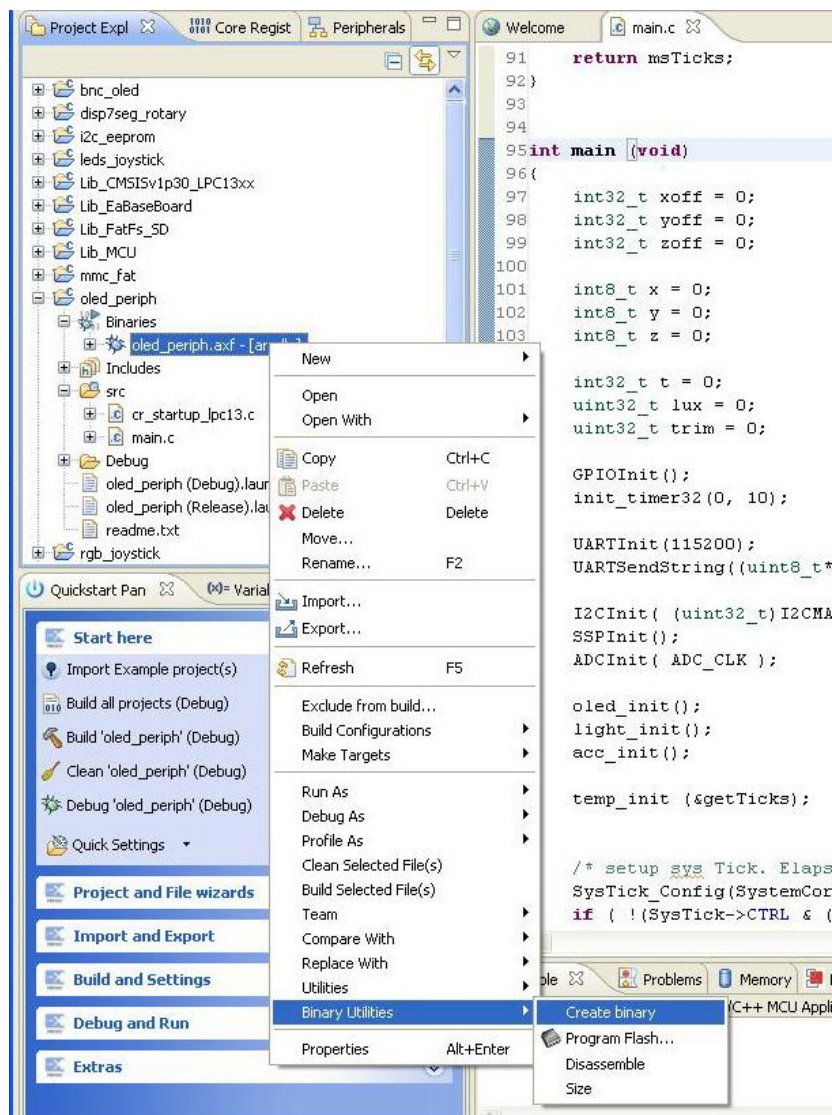

Figure 16 – LPCXpresso IDE Create a Binary File
2. Right-click on the generated axf file, go to the Binary Utilities menu and select Create binary. See Figure 16.